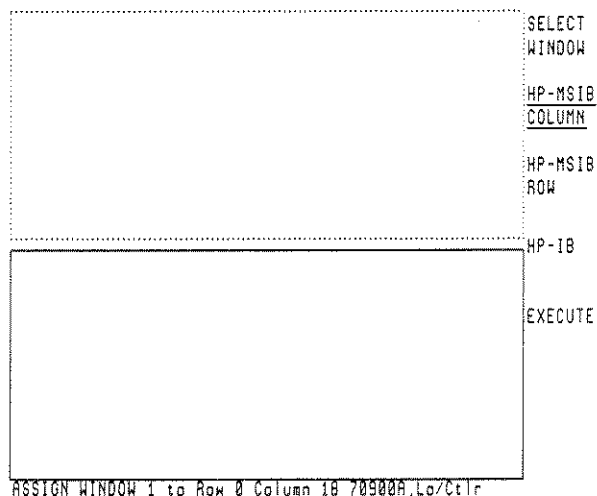

Fig. 21
4. Press **HP-MSIB COLUMN** and turn the knob until the bottom line on the screen shows that an HP 70900A module has been found (the factory default address is 0,18) as in figure 21.